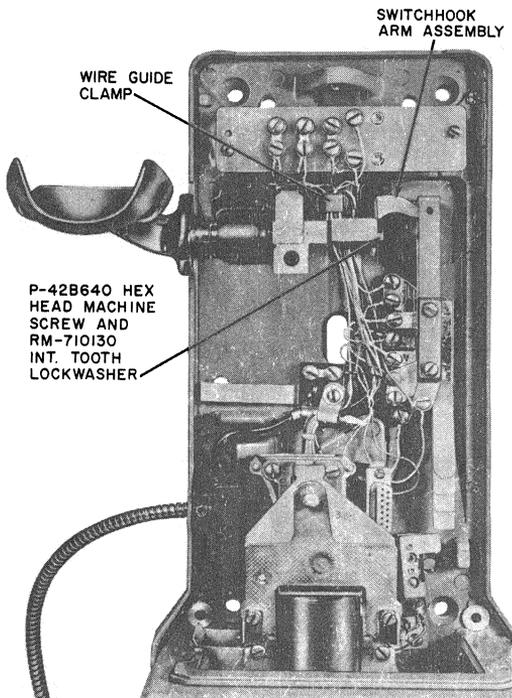

Fig. 22—Switchhook Installed
(1) Remove and retain hex head machine screw, lockwashers, tension spring, switchhook arm assembly, and any spacing washer that may be present, from right end of shaft (Fig. 22).
(2) Slide switchhook to the left and out of bearings.
2.35 Remove wire guide clamp (Fig. 22).